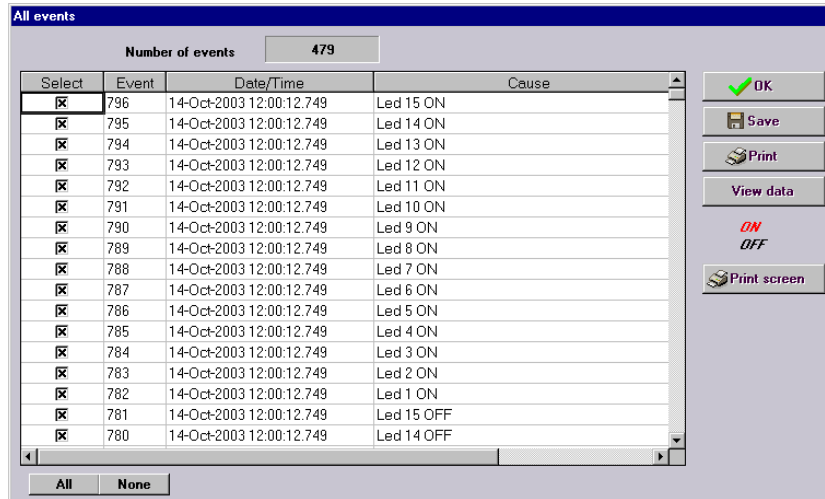

Figure 6-5: Snapshot event details
- View data:** It allows to view the information contained in the selected event, such as the event number, date and time, cause of the event, as well as the voltage and current values in the moment of the event (see Figure 6-5: Snapshot event details).